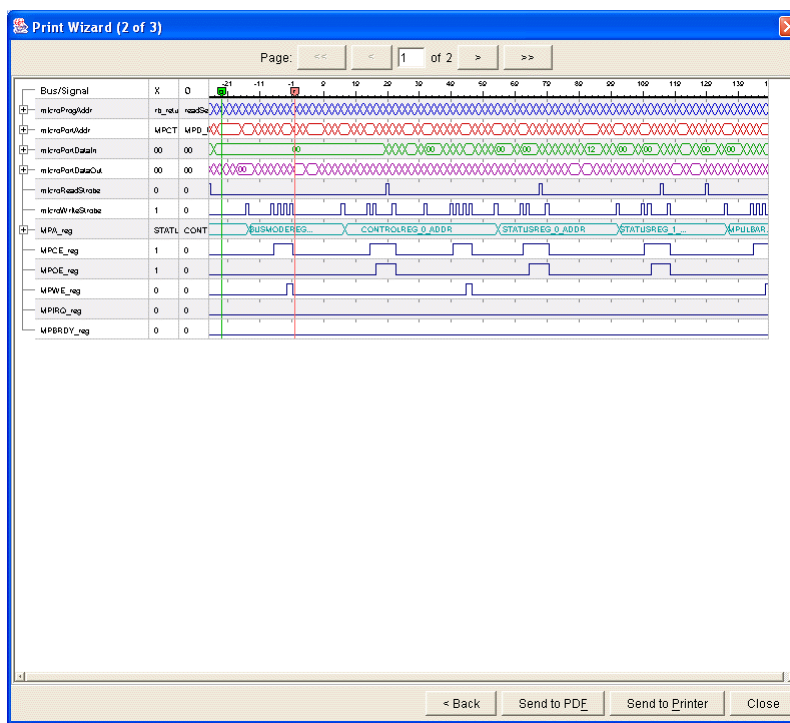
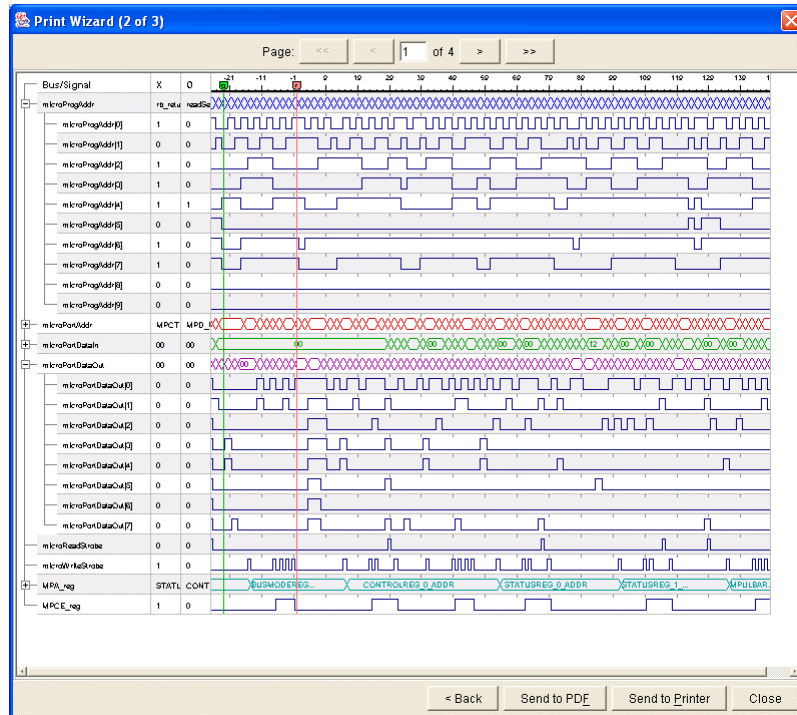

Figure 4-8: Print Wizard (2 of 3)
Figure 4-9: Expanding Buses in Print Wizard (2 of 3)
2. (2 of 3) is the Print waveform printout preview navigator window (Figure 4-8, page 4-9)
The second Print Wizard window (shown in Figure 4-8) shows a preview of the waveform printout.
The buttons at the bottom of the Print Wizard (2 of 3) window (Figure 4-8) are defined as follows:
You can manipulate the waveform by expanding and contracting the buses in the print preview window. For example, if you expand a bus in Figure 4-8, page 4-9 such that it pushes other signals/buses to another page, the total print preview page count at the top will change accordingly, as shown in Figure 4-9.